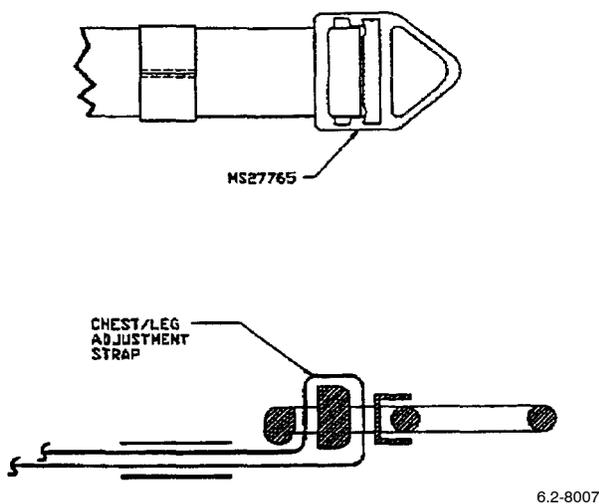

Figure 2. V-Ring
(1) Lace chest or leg straps thru V-ring. Observe that the slotted end of the moving bar in the V-ring is larger on one side of the slot and that there is a lip on one side of the straight end of the V-ring (Figure 2).